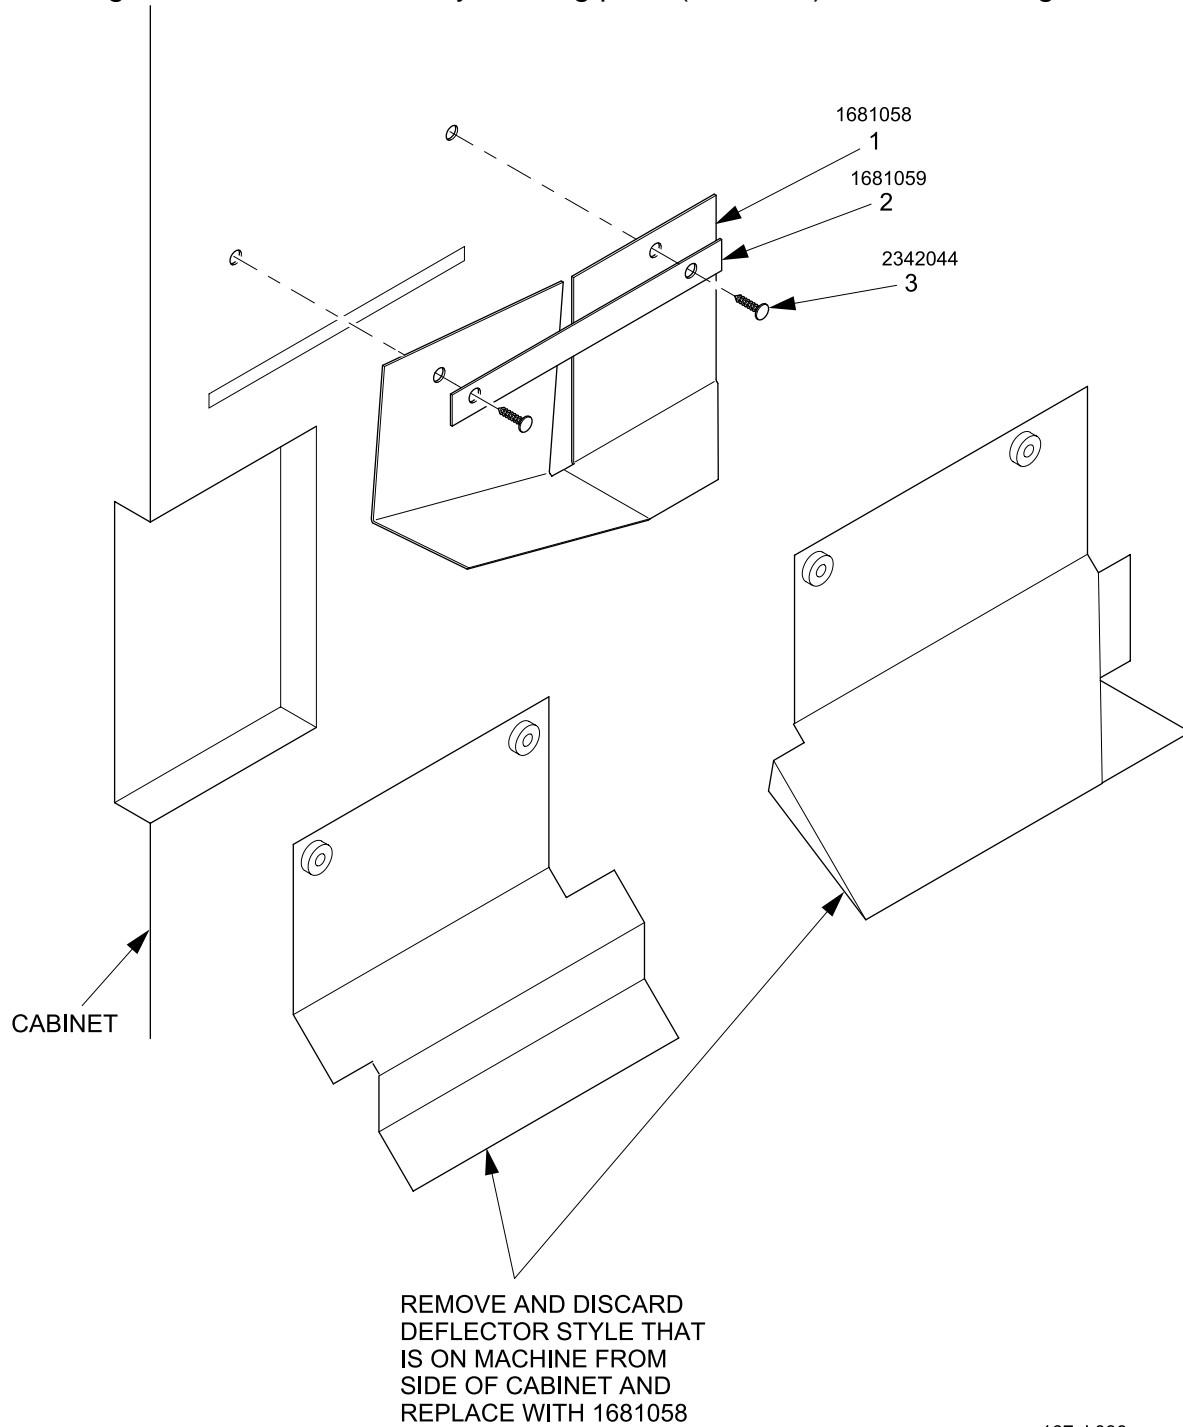

Figure 1
2. **SKIP THIS STEP IF YOU HAVE A MACHINE WITH A COFFEE MODULE.** Attach plastic deflector (1681058) to the cabinet wall with the christmas tree clips (2342044) through the deflector assembly backing plate (1681059) as shown in Figure 1 below.